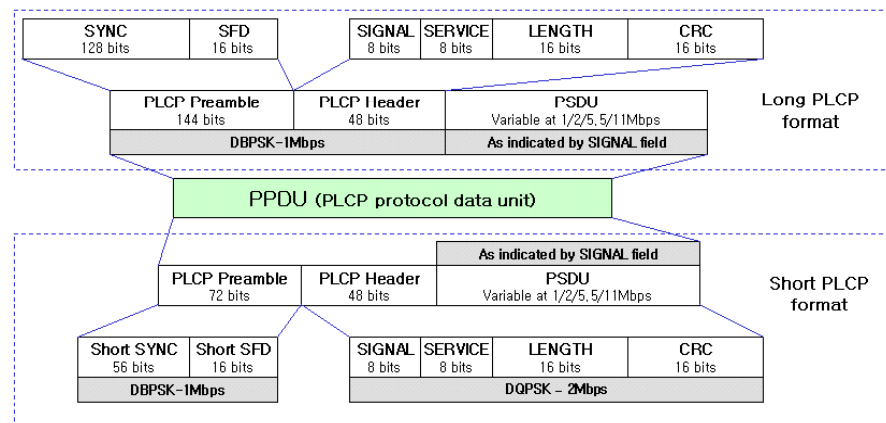

Fig. A-12 802.11b packet format
**Number of PSDU Bits/Symbols:** Fig. A-12 shows the format for the PPDU(Long and Short), including the High Rate PLCP preamble, the High Rate PLCP header, and the PSDU. The number of PSDU bits differs with the modulation method and is defined in the *SIGNAL* field.